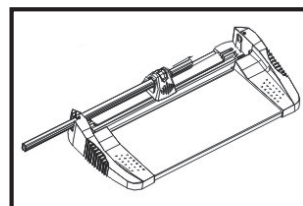

Fig 3.
**Step 5:** Once aligned, hold the cutting head firmly with one hand and gently slide the guide rail back into the right hand side location (Fig 3).